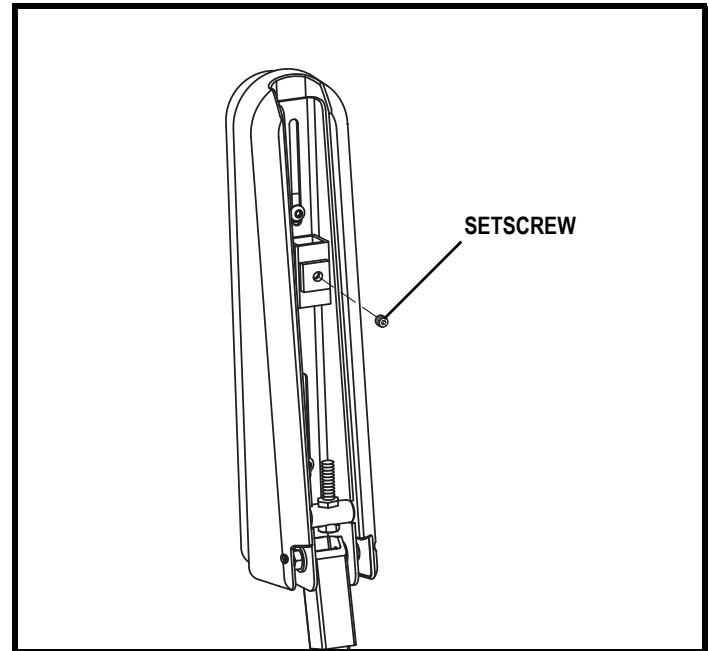

Figure 20. Underside of Armrest
2. Loosen the setscrew on the controller bracket. **See figure 20.**
5. Loosen the setscrew on the underside of each armrest. **See figure 20.**